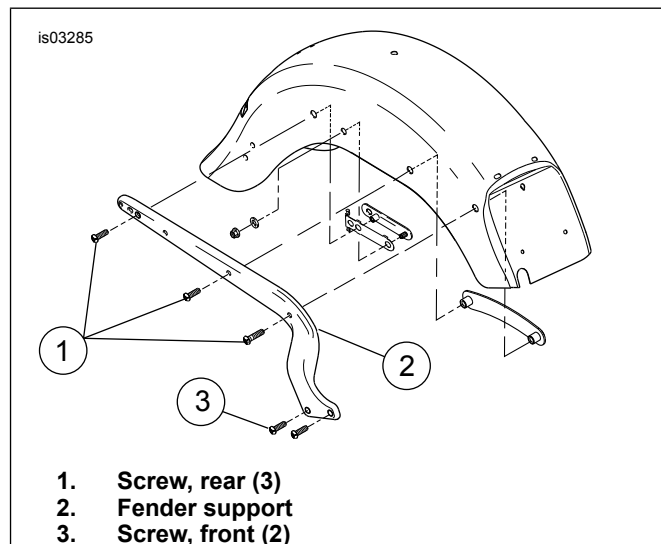

Figure 4. Fender Support Screws and Fender Support
6. See Figure 4. Remove three rear screws (1) from fender support (2).
7. Loosen but do not remove two front screws (3) from fender support.